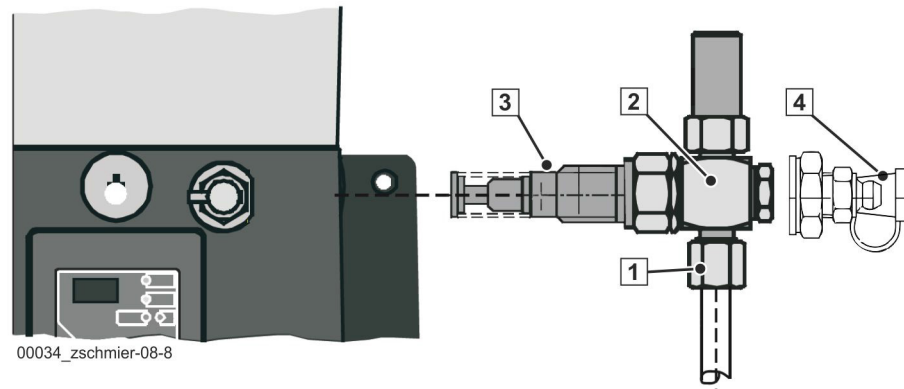

Fig. 235
- Remove the main lines (1) (**Fig. 235**) from the male connector (2) (**Fig. 235**) on the pump elements (3) (**Fig. 235**)
Furthermore, “emergency grease nipples” (4) (**Fig. 235**) are available on the male connectors of the pump elements.